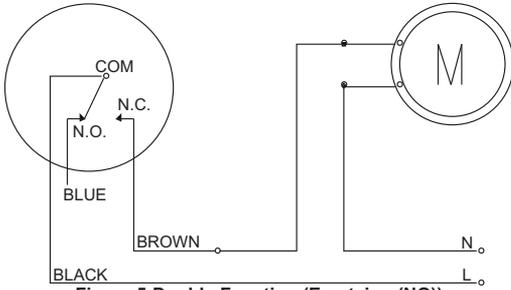

**Figure 3-Emptying (NO) Function**
The Series CFS2 features a variety of different cable options. One of these options includes the selection between SPST and SPDT. SPST, single pole single throw, allows a single operating function with the choice of operation on increasing level (NC/filling) or operation on decreasing level (NO/emptying), depending on the model selection. SPDT, single pole double throw allows for operation of both increasing and decreasing level, depending on the connections made between the terminals of the micro-switch and the cable. SPDT, which is a four-conductor cable (ground option) or a three-conductor cable (without ground option), has one lead that is common, one that is normally open (NO), and the other that is normally closed (NC), for the proper connections of these conductors please refer to the wiring diagrams in Figures 3 to 12.